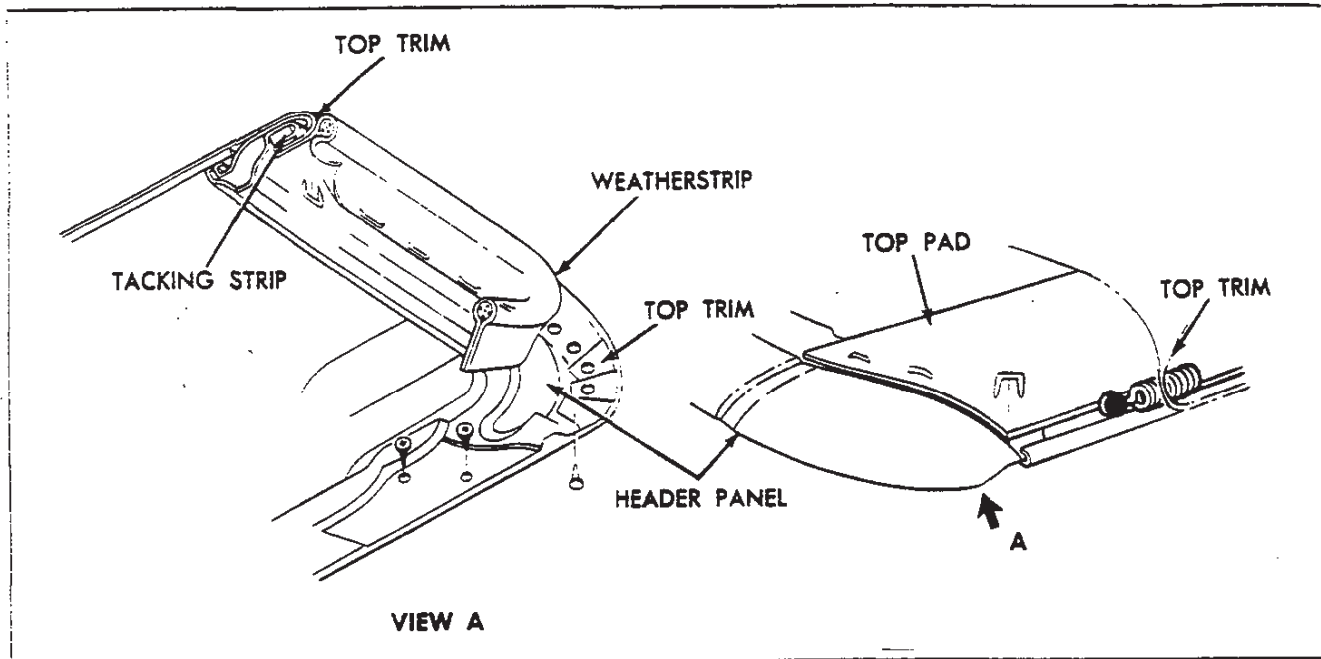

Fig. 70—Trim at Header
2. Remove tacks securing top and header outer weatherstrip to header (fig. 70).
14. Release header from windshield. Tack or staple trim to header (fig. 70).